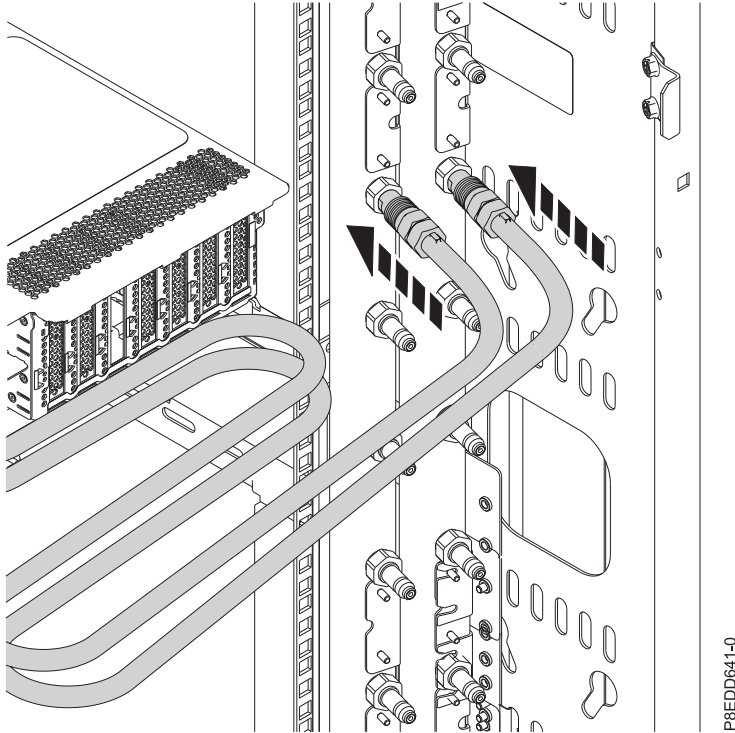

Figure 214. Reconnecting the water hoses
- Reconnect the water hoses at the rear of the rack, as shown in Figure 214 on page 187.